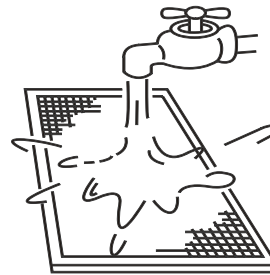

Figure 14.3
- b. The air intake side should face down when using clean water. (Refer to Figure 14.3)